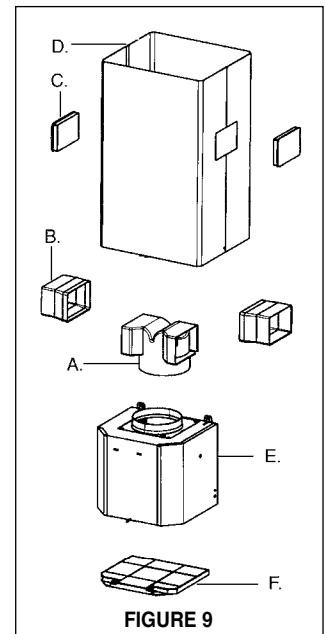

FIGURE 9
Ductless installations require a **Ductless Conversion Kit** whose components are pictured in FIGURE 9. Do not use the DAMPER (N in FIGURE 1) for ductless installations. The LOWER CHIMNEY COVER (B in FIGURE 1) should be discarded and replaced by the new one with holes from the **Ductless Conversion Kit** (D in FIGURE 9).
As indicated in FIGURE 9, place the DUCTLESS DIVERTER (A) over the exhaust opening of the EASY CUBE (E). Fit the DUCTLESS DIVERTER EXTENSIONS HORIZONTAL (B) into the DIVERTER (A).
For ductless installations, line up the DUCTLESS DIVERTER EXTENSIONS HORIZONTAL (B in FIGURE 9) with the holes in the LOWER CHIMNEY COVER (D in FIGURE 9) and snap in the VENT GRIDS (C in FIGURE 9).
- For ductless installations, install the CHARCOAL FILTER (F in FIGURE 9) behind the center grease filter opening by inserting and locking into place.